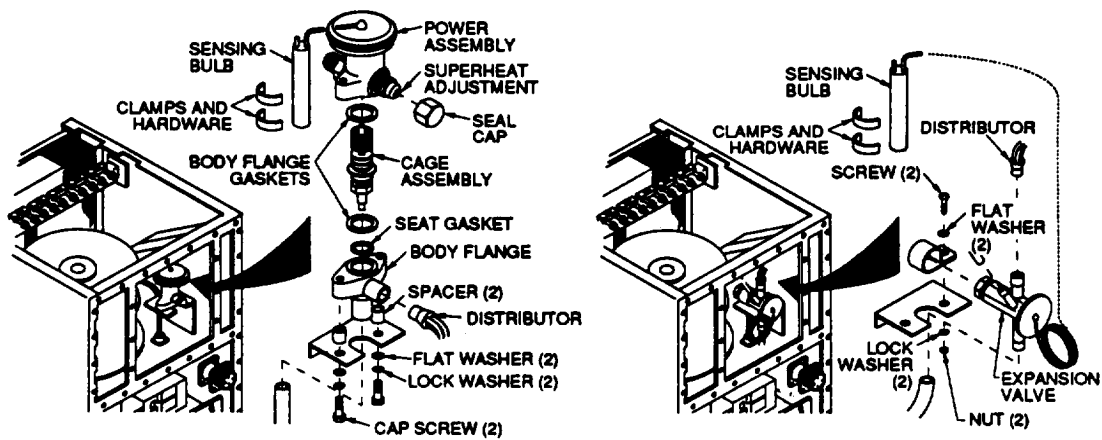

Figure 5-21. Expansion Valve
(1) Discharge the refrigerant system per paragraph 5-6.
(2) Unwrap insulation from suction line so that sensing bulb is exposed. Loosen screws and nuts in clamps. Pull bulb out of clamps.
*(3) Disconnect flare nut on external equalizer line from expansion valve.
*(4) Remove the two screws, flat washers, lock washers, and spacers that attach the valve body to its mounting bracket.
***(5) Remove the screw, flat washer, lock washer, nut, and clamp that secures valve to mounting bracket.
*(6) Remove remaining valve components except for body flange. (See figure 5-21.)
*(1) If valve body flange was removed, purge the system with nitrogen and braze the two tubing joints. (See para 5-7 and 5-8.)
***(2) Purge the system with nitrogen and braze the three tubing joints. (See para 5-7 and 5-8.)
*(3) See figure 5-21 for valve component arrangement.
*(4) Place cap screws, lock washers, flat washers, and spacers through bracket and valve body flange.
***(5) Using screw, lock washer, flat washer, clamp and nut. Secure valve to bracket.
*(6) Be sure that valve components are properly aligned and secure power assembly to body flange.
*(7) Connect flare nut on external equalizer line to expansion valve.
(8) Insert the sensing bulb into its mounting loop clamps in its original position and tighten the screws and nuts. Be sure the sensing bulb is making good metal-to-metal contact with the suction line.
(9) Replace the insulation tubing that was removed from the sensing bulb and expansion valve connections. Secure with tape, item 11, Appendix E.
(10) Replace the dehydrator. (See para 5-13.)
(11) Leak test all newly connected joints and those in the repair area. (See para 5-9.)
(12) Install rear panel. (See para 4-33.)
(13) Evacuate and charge the refrigerant system. (See para 5-10 and 5-11.)